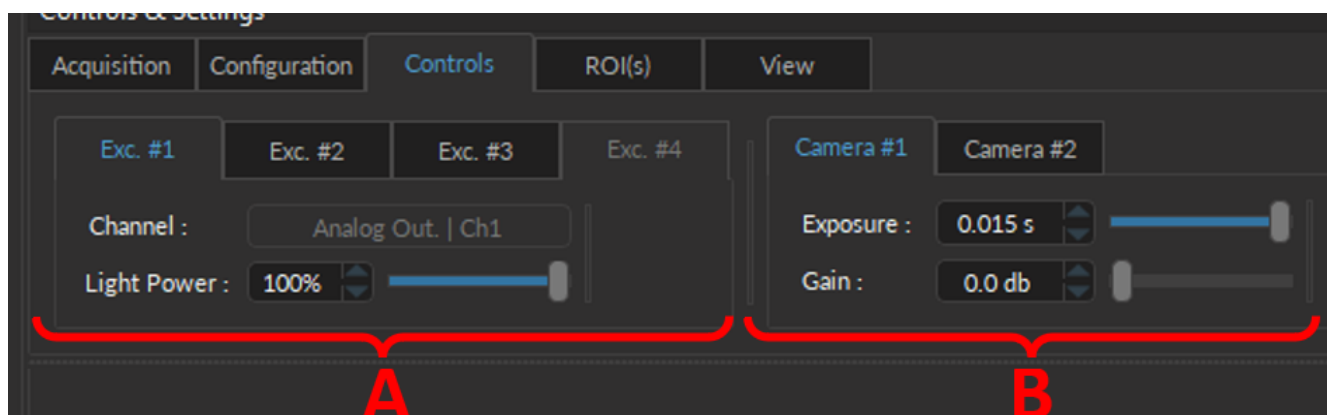

Figure 15.11: Controls Tab
The **Controls** section is split into two subsections (Fig. 15.11):
1. The **EXC # tabs** (Fig. 15.11, A) controls the strength of the LED excitation(s) required for fiber photometry.
2. The **Camera # tab(s)** (Fig. 15.11, B) controls the acquisition parameters of each *BFMC* or *BFTO* camera.